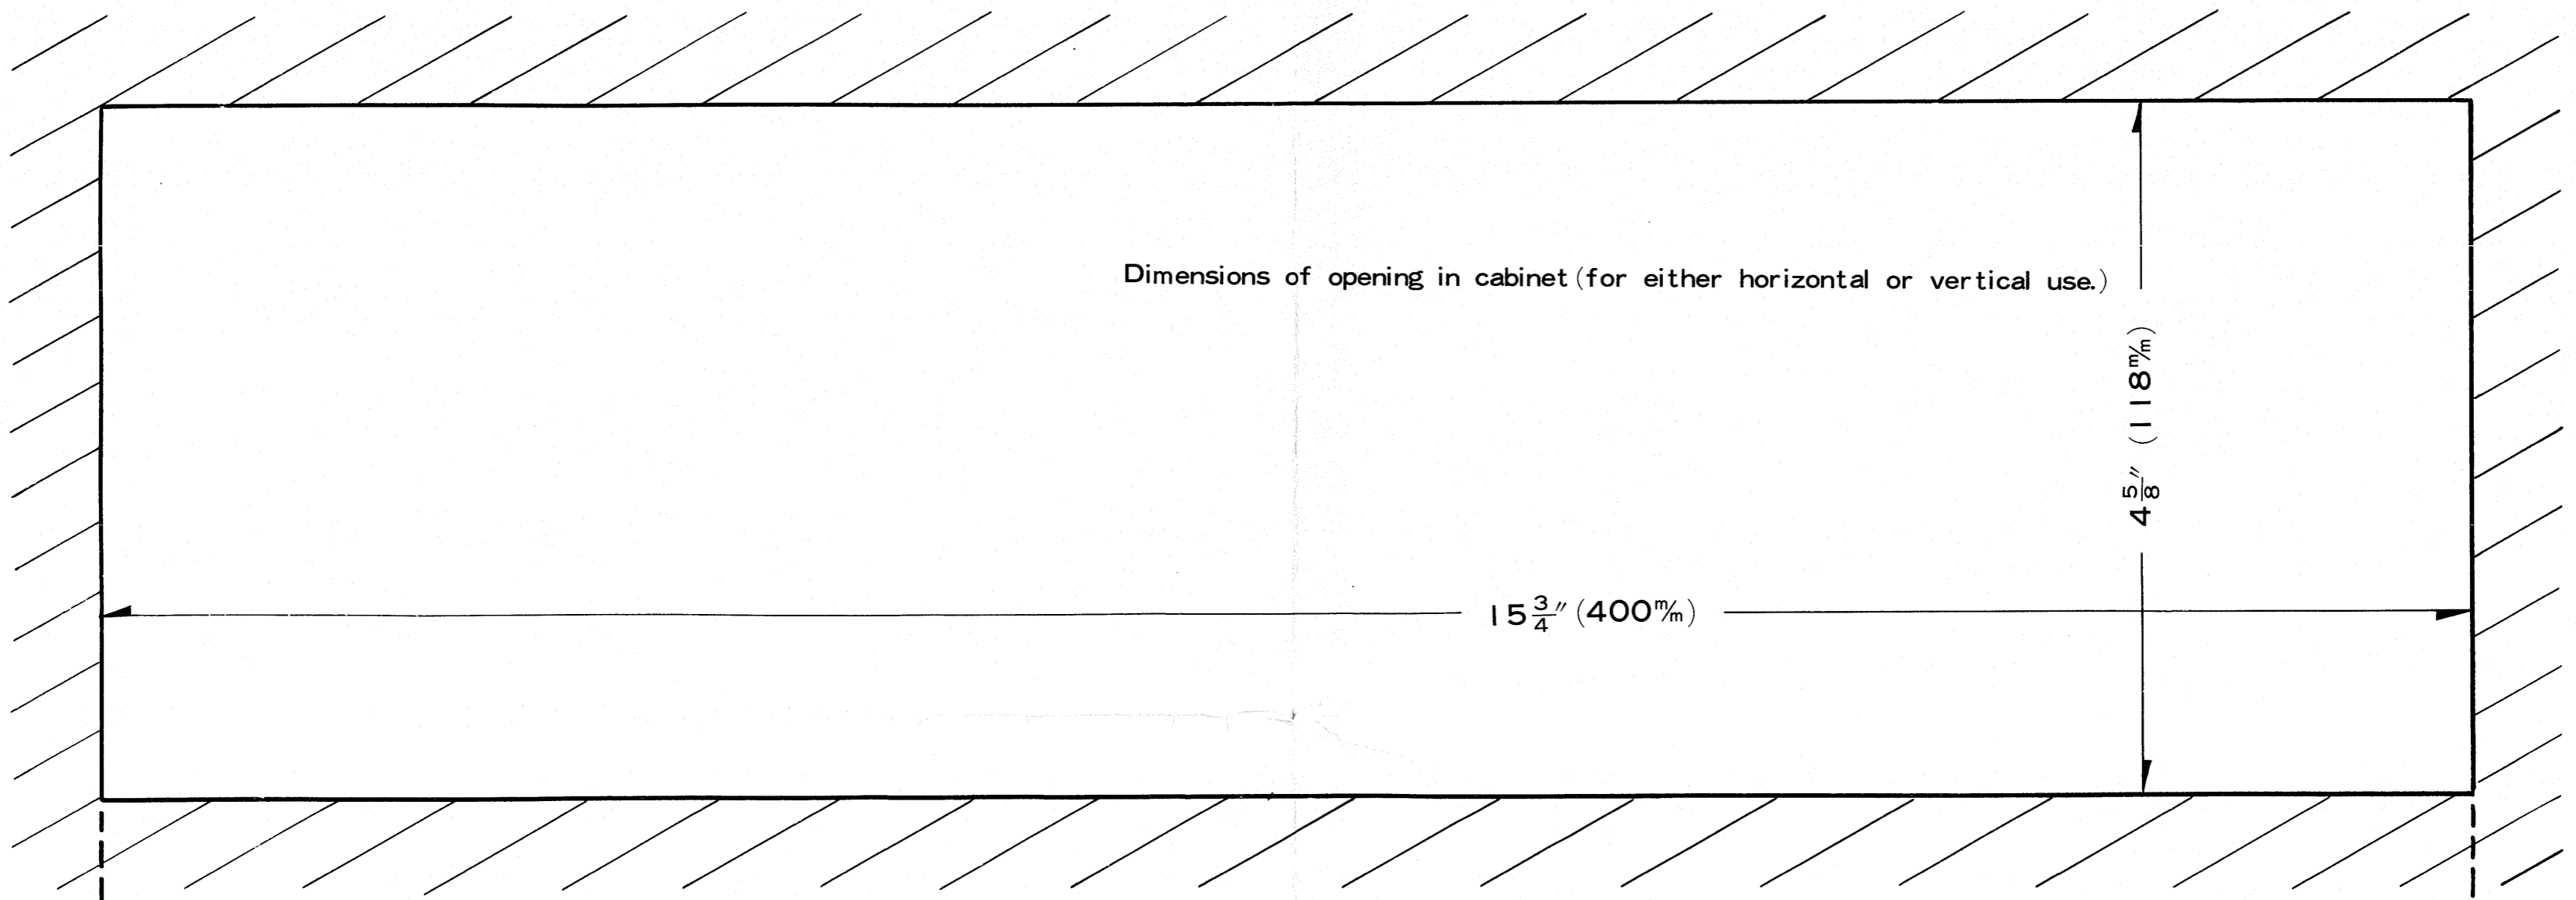

Fig. 1.
2. Make an opening for the front of the cabinet. The dimensions should be the same as Fig. 1.